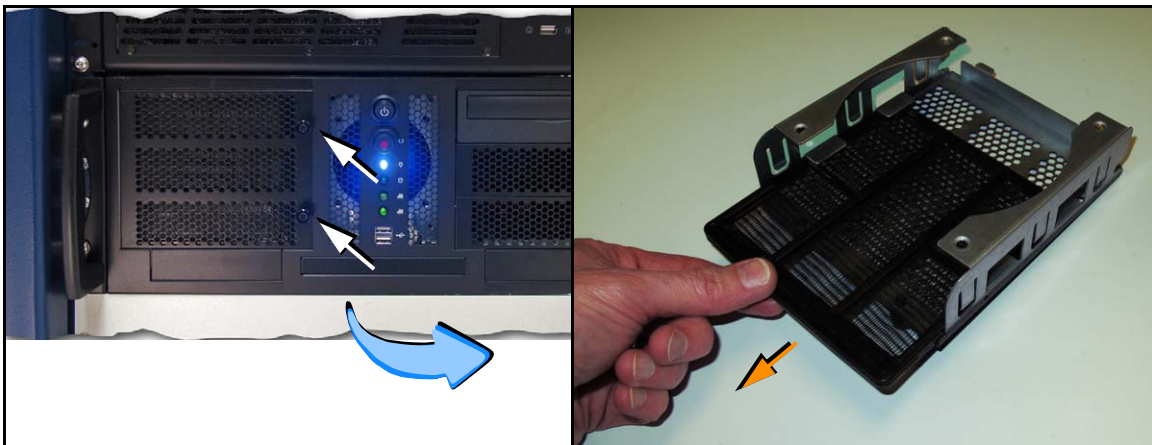

Figure 4-26: The Handler Computer filter door has two knurled knobs (white arrows). The filter (screen) slides out.
2. Open the filter door by unscrewing the two knurled knobs. See Figure 4-26.